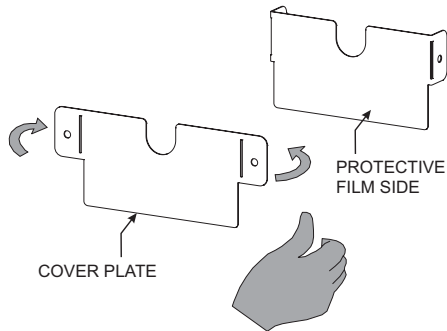

Figure 5
For R3 Series Grill Heads: Bend the tabs on the Post Cover Plate to 90° as shown in Figure 5. Two different size cover plates are included with the R3 Series Grill Heads. Choose the plate that will best fit your post.
6. **For R3 Series Grill Heads:** Slide the Post Cover Plate onto the front of the post. Slide the Upper Bracket onto the post. Secure the Post Cover Plate and Upper Bracket to the top of the square post using four #10 – ½ Self Drill screws for stainless steel posts and 10 x 1/2 Hex Head screws for black posts. See Figures 5 and 6.